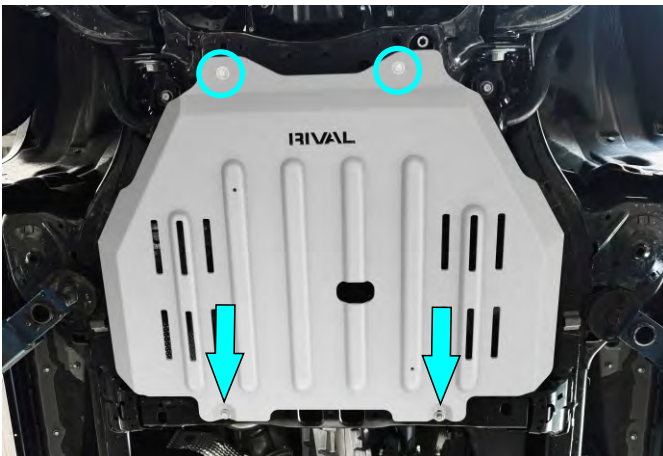

Fig. 3
3. Slide rear part of transmission skid plate under previously installed bolts M8. After that secure front part using bolts M8x25 and washers M8 (items A, B) as shown in fig. 3.